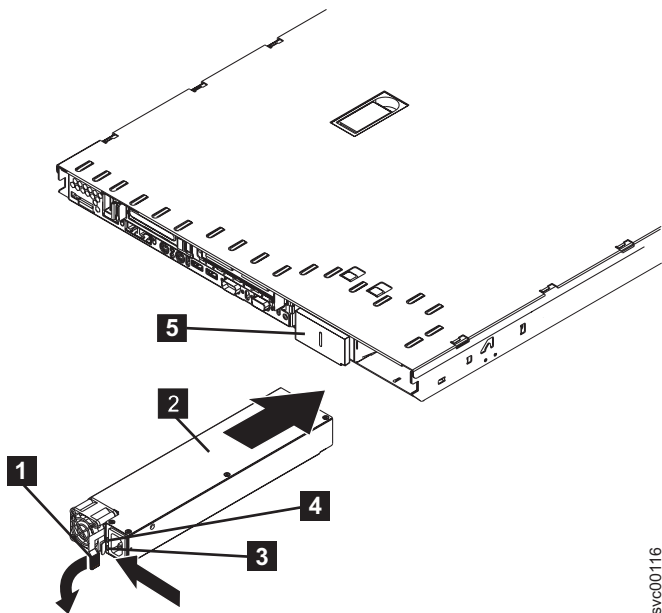

Figure 162. SAN Volume Controller 2145-8F2 power supply
- a. Rotate the handle **1** down on the rear of the power supply to the open position, and then slide the power supply forward into the power-supply bay, as shown in Figure 162.